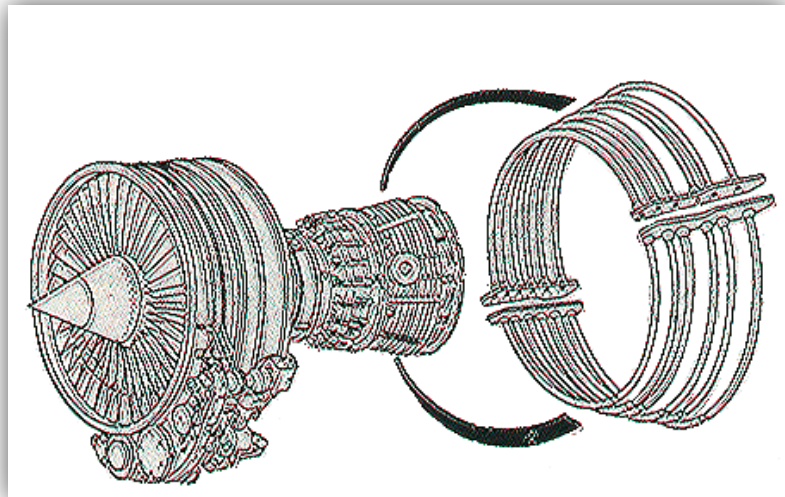

Figure 1. Air cooling manifolds located around the turbine outer casing.
*Figure 1* shows air cooling manifolds used in the cooling process of the turbine outer casing (the same applies to the compressor casing).